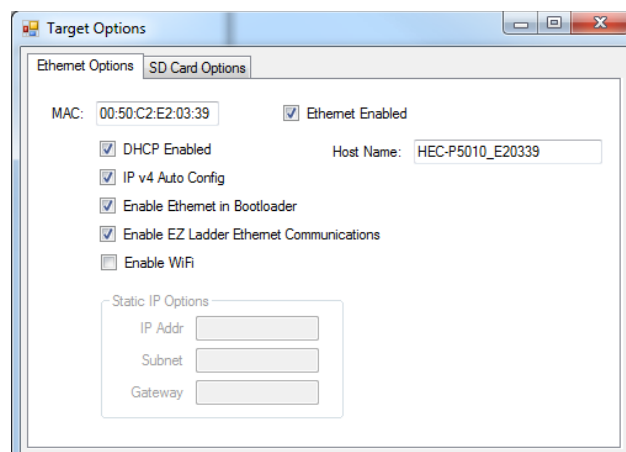

Figure 2.43 - HEC-P5XXX ETHERNET OPTIONS
8. Click the **TARGET OPTIONS** button. The Target Options window will open. There will be two tabs in this window. Click the **ETHER-NET OPTIONS** tab. See Figure 2.43.